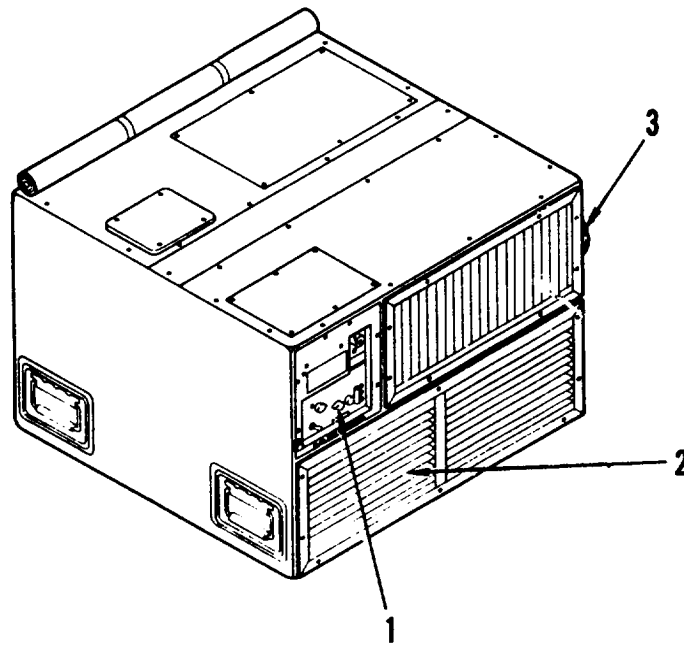

Figure 2-11. Air conditioner stopping instructions
g. Stopping Instructions for Air Conditioner (See Figure 2-11). Stop air conditioner as follows: